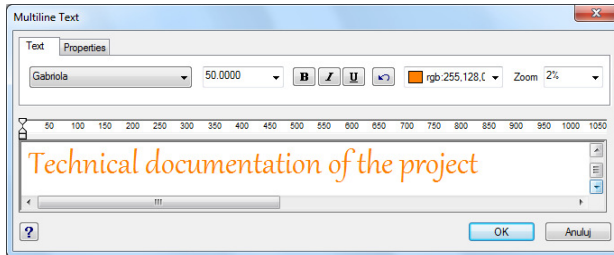

Fig. 56 - Multiline Text dialog box – text edition
- In the dialog presented below enter the changes (font, bold, colour etc.)(Fig. 56).